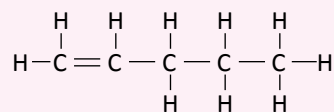

Figure 2
2. Figure 2 shows the structural formula of compound X.